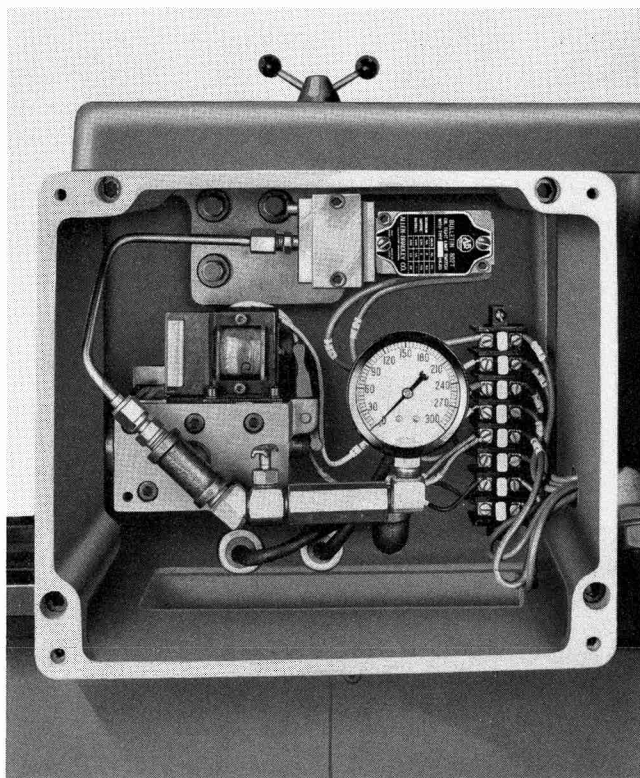

FIG. 4
panel. If the power lines have been connected to give the correct rotation of the motors, the gage in Figure 4 will show about 25 lbs. pressure, and the main motor will start. If the gage does not show pressure within a few seconds, press the "STOP" button and reverse two of the incoming leads.
1. Figure 4 shows the lubricant pressure gage mounted in a cavity located on the back of the headstock. The gage should show between 25 and 30 lbs. pressure when the machine is running. During the shifting cycle, about 200 lbs. pressure should be indicated to insure proper shifting. After checking the gage be sure to turn off the stop cock and replace the cover.